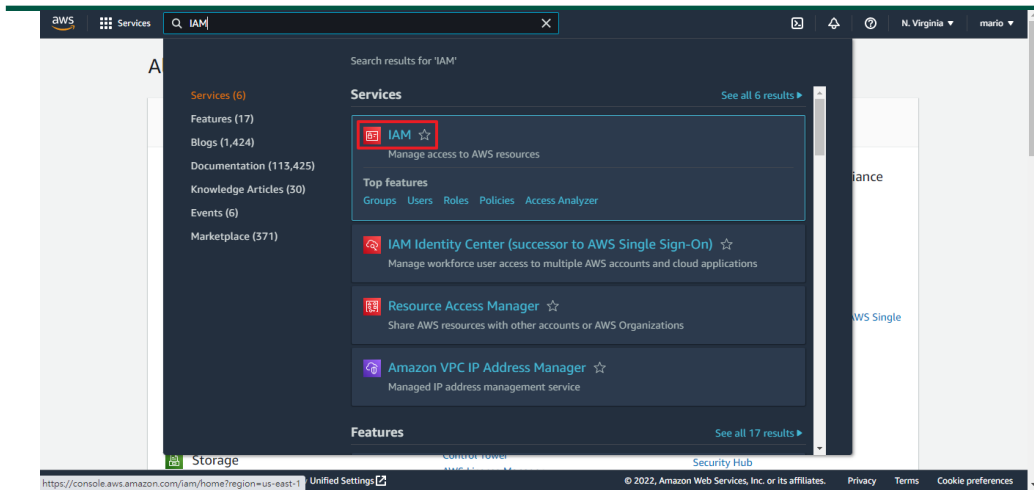

Figure 4-146 IAM Endpoint
- Click Services to enter the IAM entry (as shown in Figure 4-146).